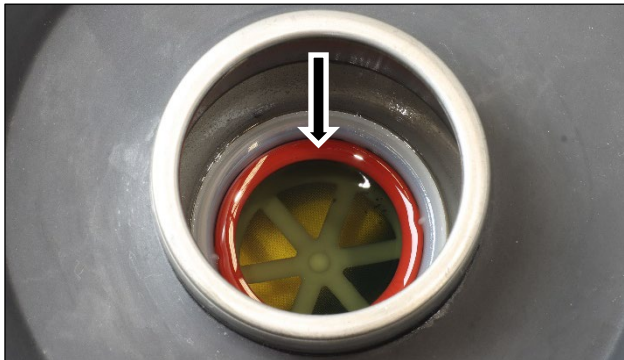

Figure 6 Maximum Fuel Fill Level
4. Slowly add fuel into the fuel tank. Be careful not to overfill the tank. The fuel level should NOT be higher than the red ring inside the fuel strainer (see Figure 6).